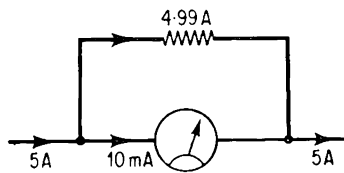

Fig. 118
In order to use a moving coil meter to measure a large range of different currents and voltages, resistors may be added in parallel (shunts) or in series (bobbins or multipliers). *Should a good ammeter have a high or low resistance? (8) Why? (9) Fig. 118 shows a meter with a shunt fitted. Will the total resistance be greater or less than the meter resistance? (10)*
A shunt should be fitted to the meter as shown in Figs. 118 and 119. At full scale deflection the shunt will have to carry 4.99 A and the voltage across it will be the same as the voltage across the meter movement, that is, 0.1 V. The resistance of the shunt is therefore